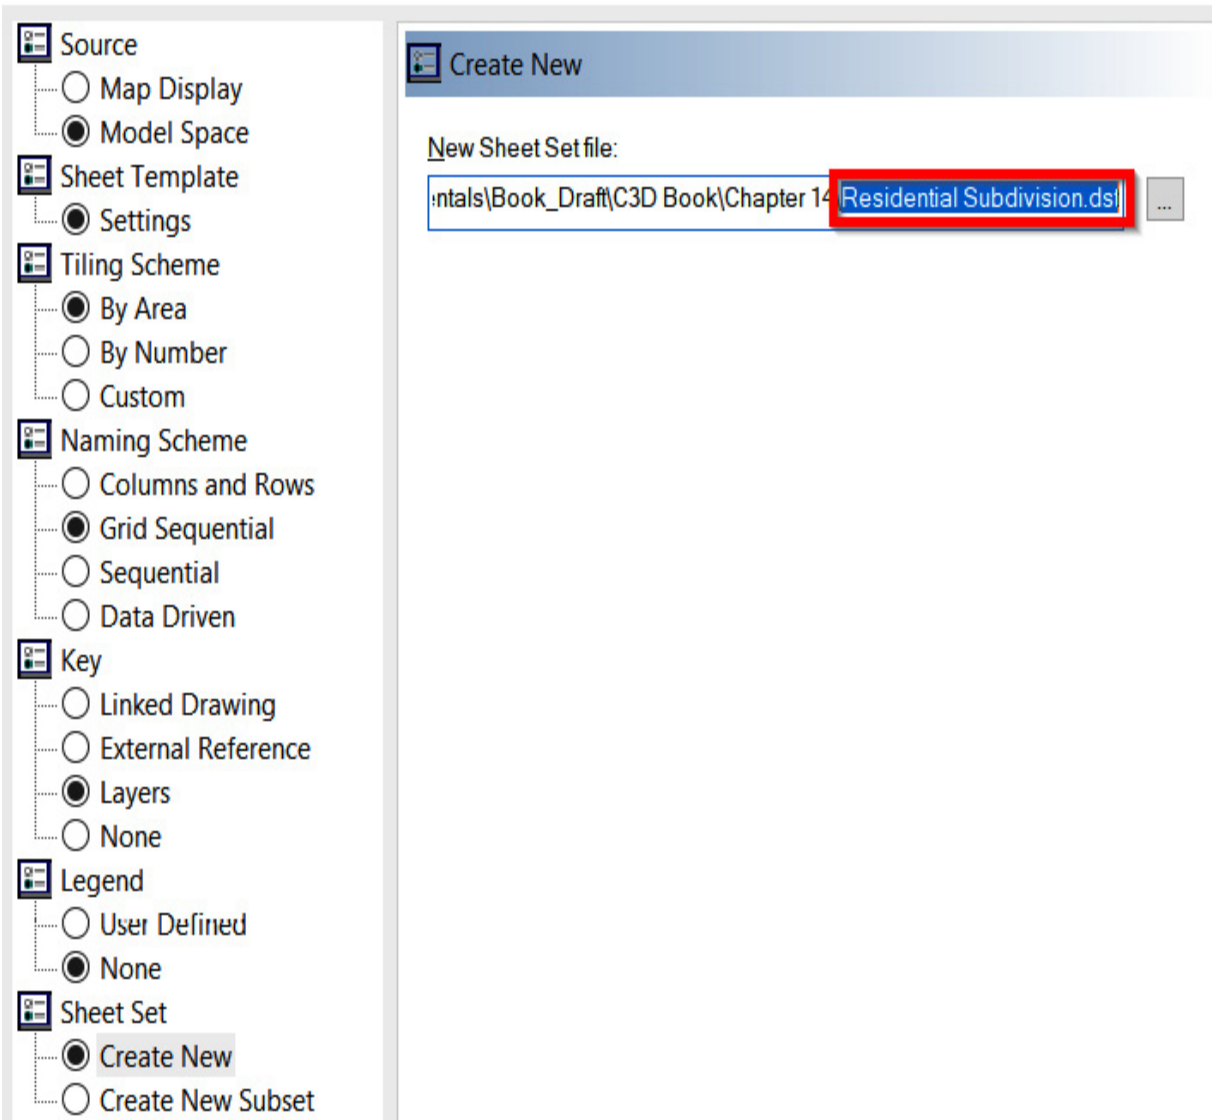

Figure 14.11 – Map Book > Sheet Set > Create New Criteria
- **Legend: None** (as shown in *Figure 14.11*):